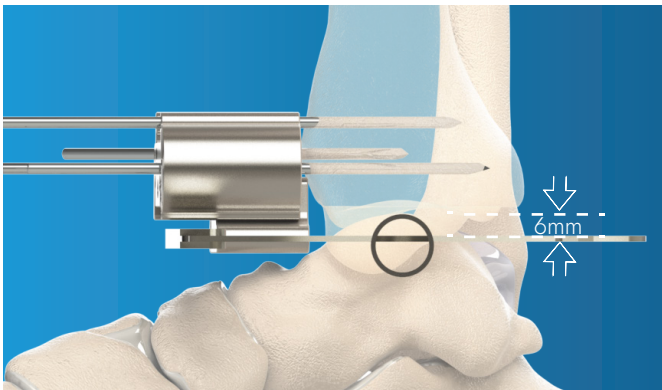

Figure 32. Talar Cut Trajectory and Nominal Resection
**Tip:** Take care to check for proper alignment of the fluoroscopy arm during this step by confirming that the cylinder is a perfect circle on the lateral view (**Figure 32**).